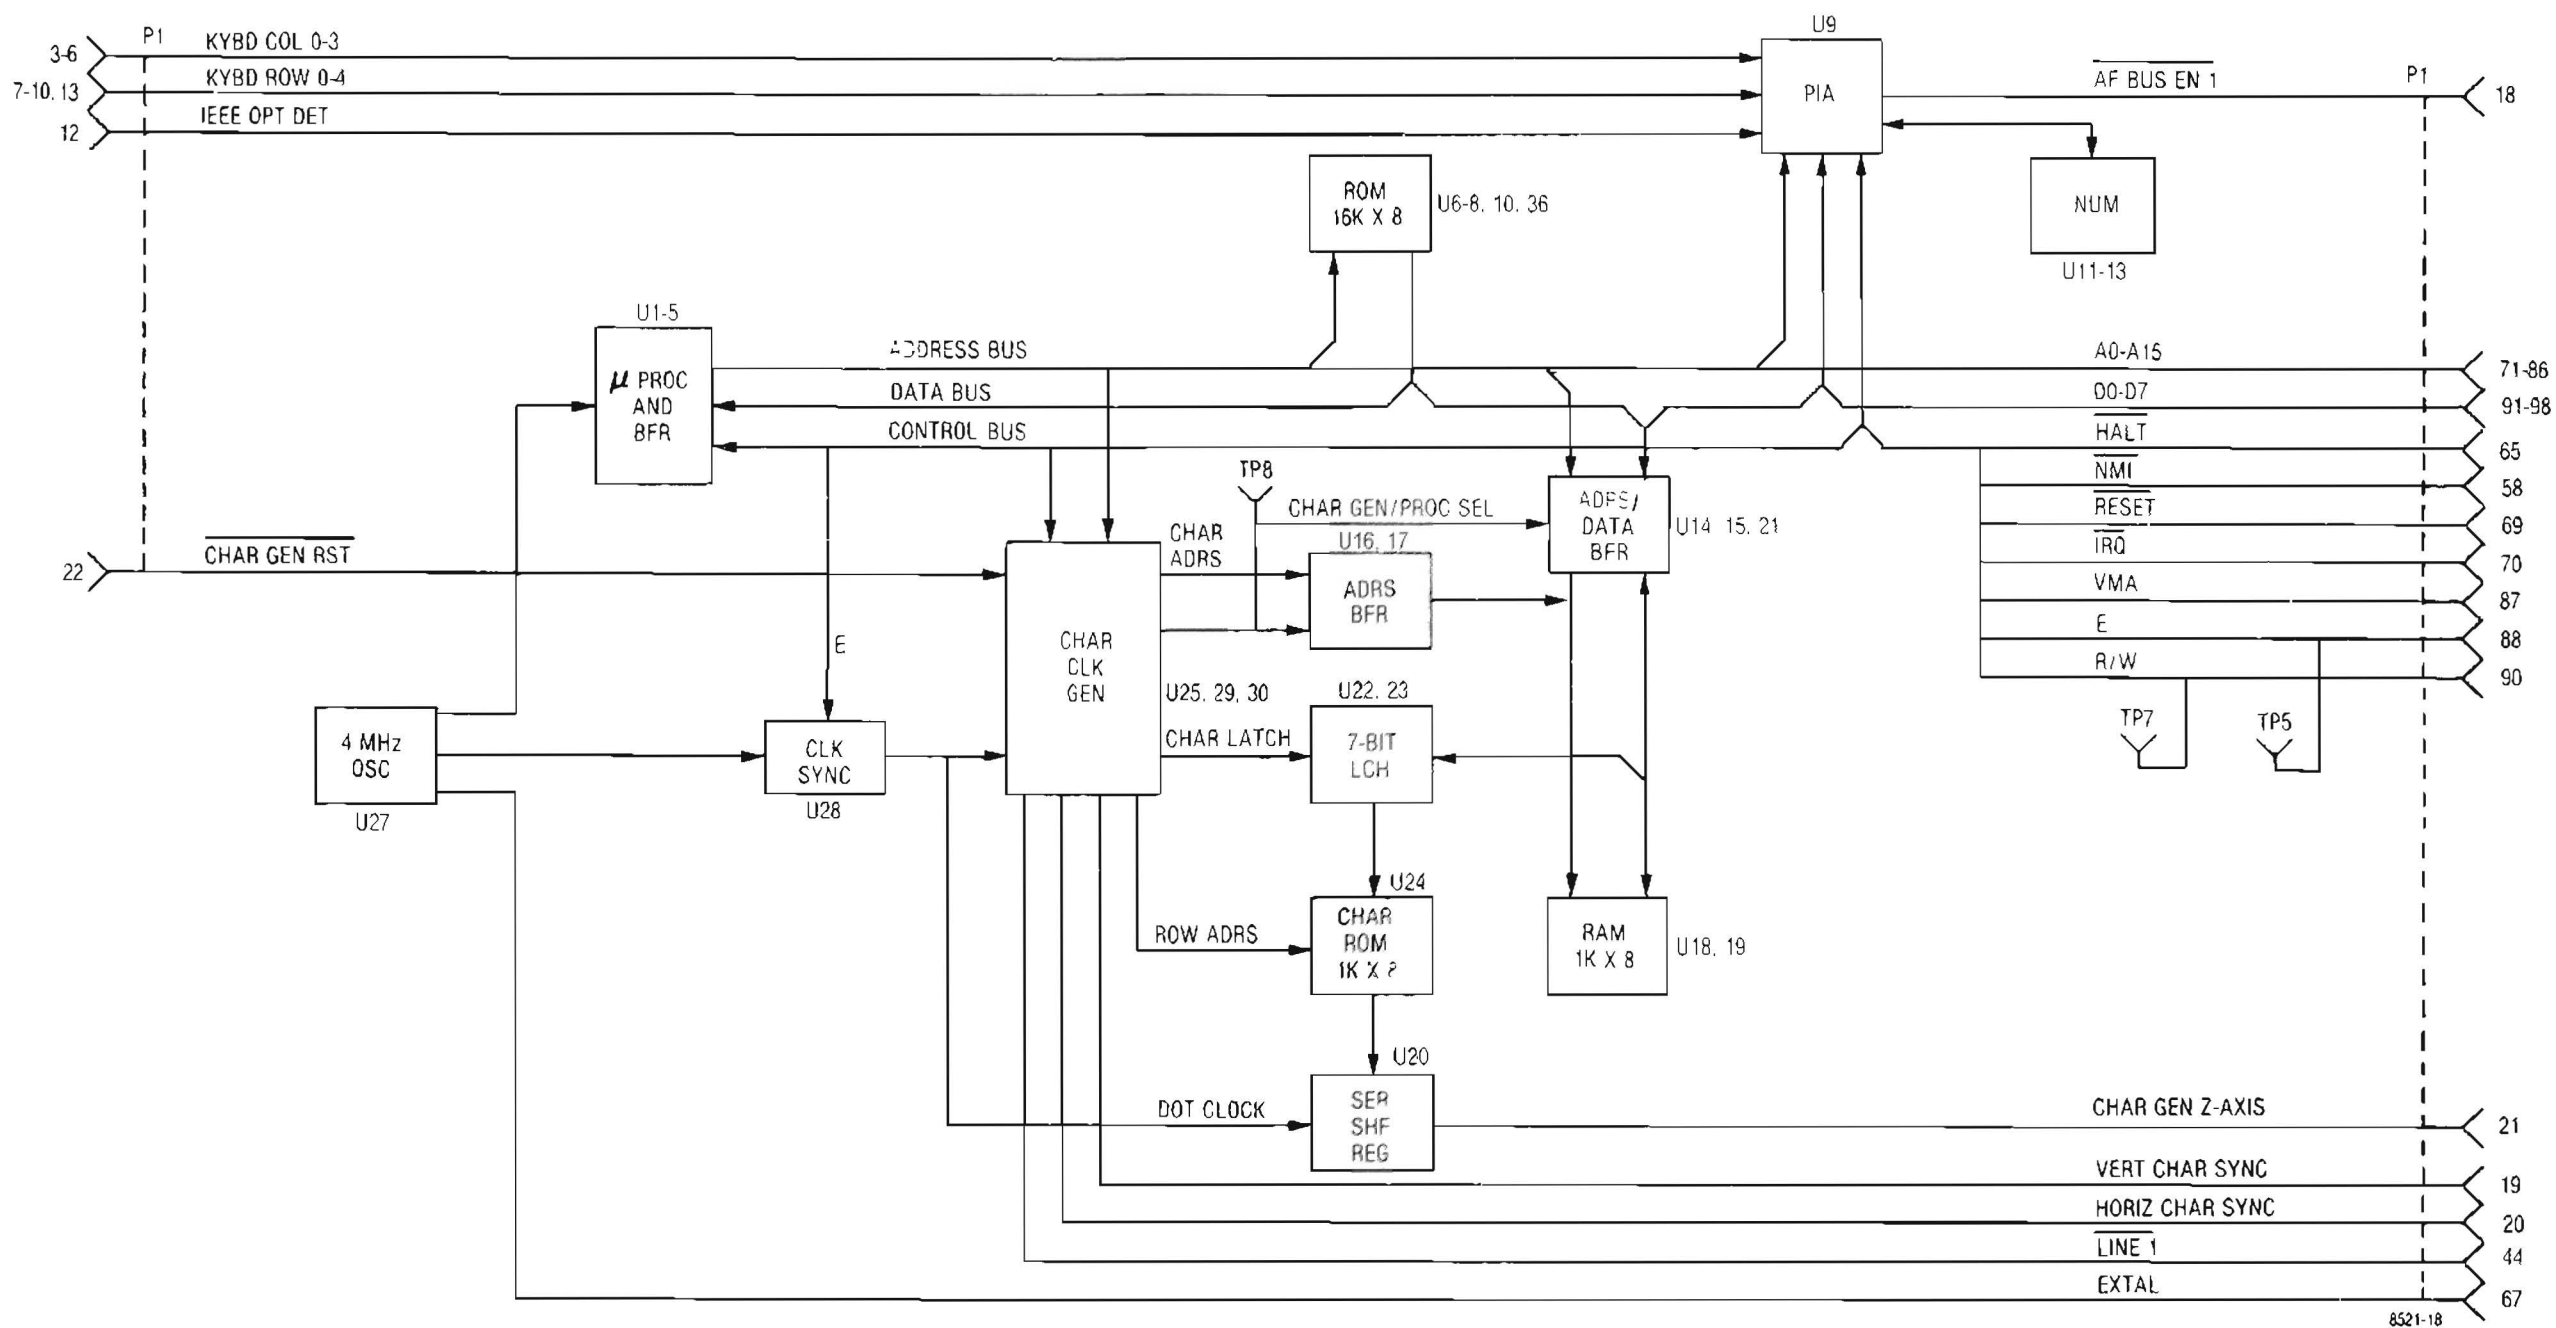
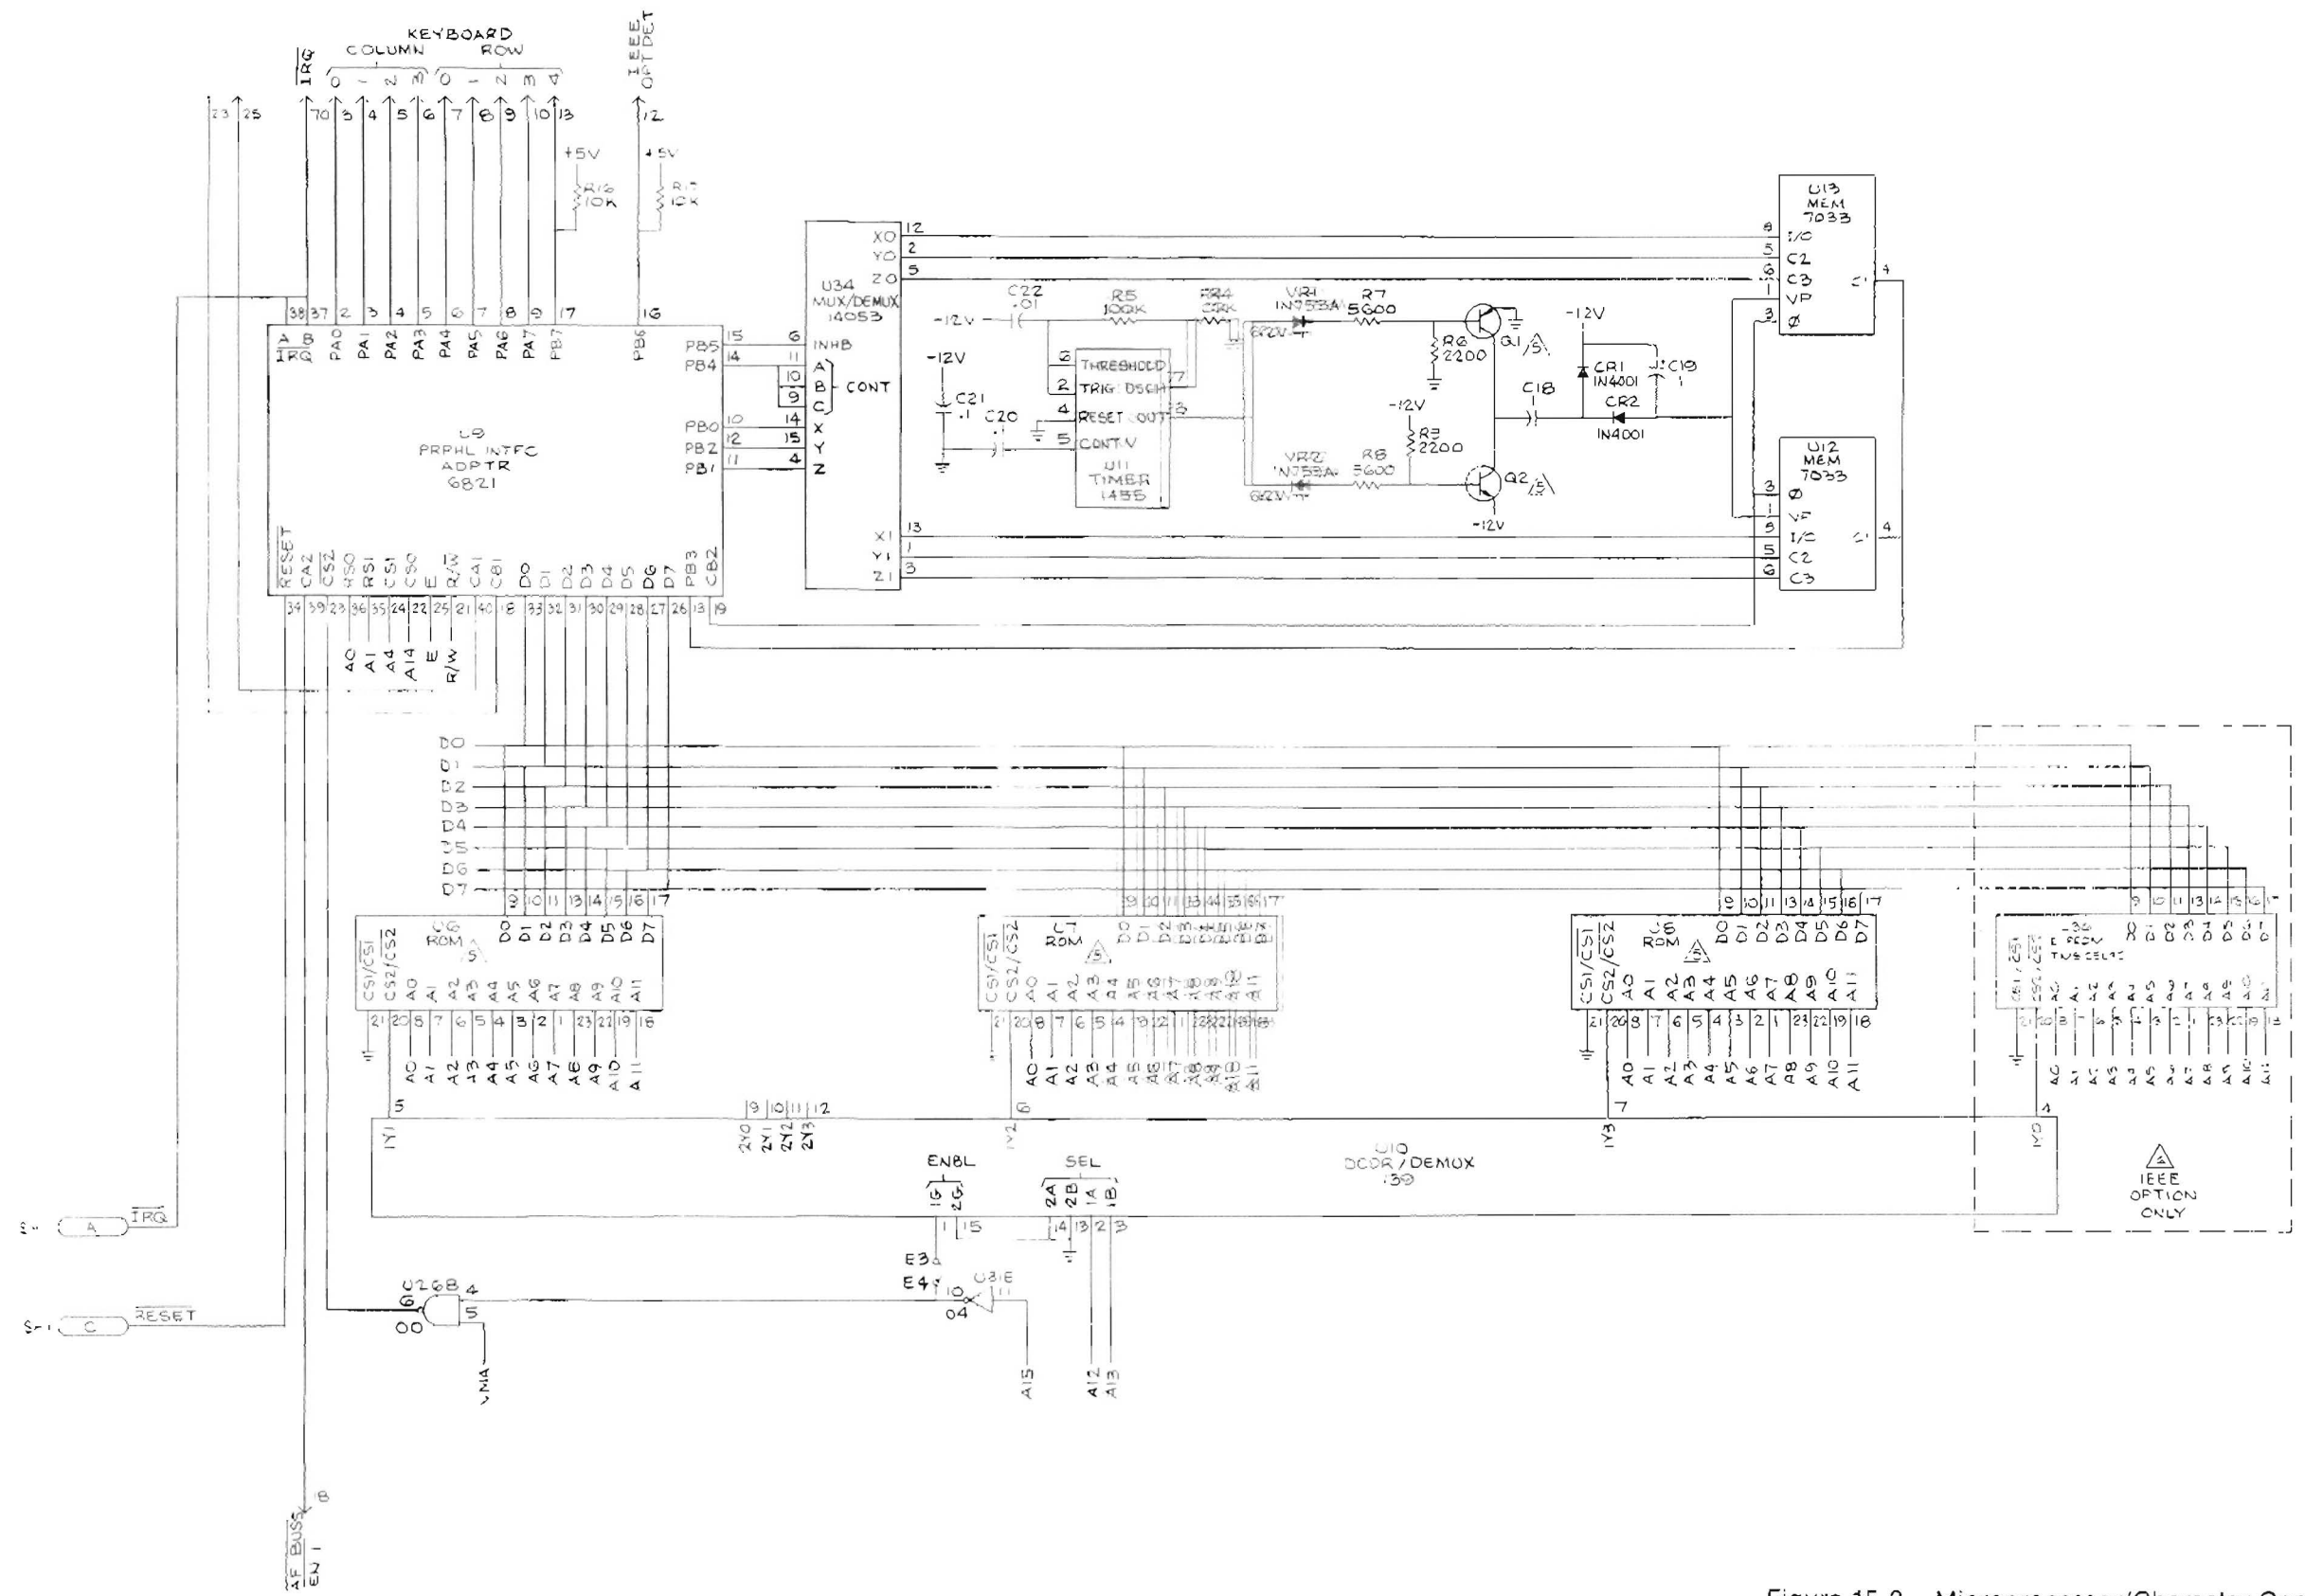

Figure 15-1. Microprocessor Module A9
Figure 15-2. Microprocessor/Character Generator A9
**15-1 General.** Primary control and data manipulation requirements of the system are performed by the microprocessor on the Processor Module. Input and output information is carried along the processor's address, data, and control buses, or displayed on the CRT through the character generator circuits on the Processor Module. A block diagram of the Processor Module is shown in figure 15-1 with its schematic shown in figure 15-2.
**15-6. Character Generator.** The Character Generator sequentially accesses that half of RAM where character information is stored and causes the respective characters to be displayed on the screen. Since both the character generator and the microprocessor share the same memory, the two must be synchronized so that they access that memory during alternate half cycles of the master clock. A 4 MHz oscillator is divided by four within the 6802 to give the 1 MHz (E) master timing signal. The E signal from the microprocessor is then used to synchronize the 2 MHz DOT CLOCK and input to the Character Clock Generator.